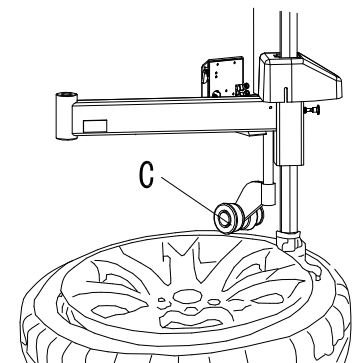

Fig 11
3. Nearby demounting/mounting head, insert lift lever N into tyre, use lift lever to lift bead upon knob of demounting / mounting head. Manually rotate roller C to inner side, pull handle D down, make roller C to press rim, keep 3-5mm gap between demounting/mounting head and rim, make sure demounting/mounting head not damage rim, rotate turntable, demount tyre upper bead ( Fig 11)